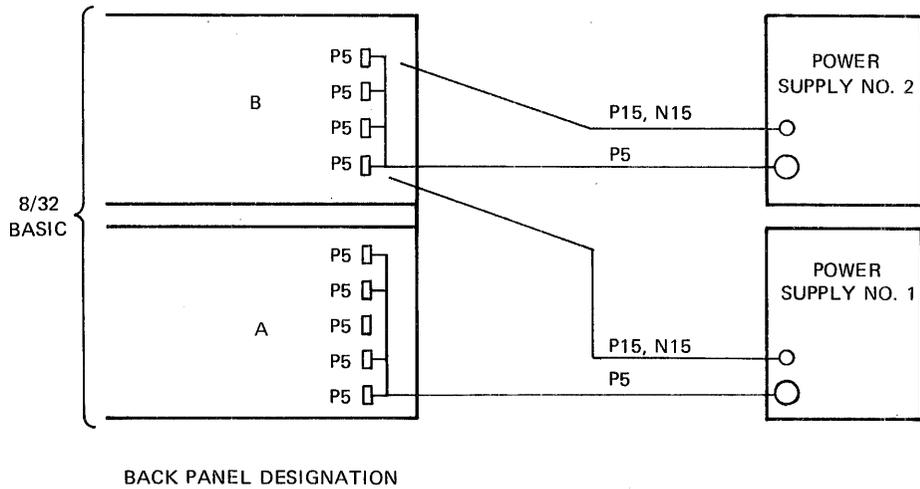

Figure 11. Basic 8/32 with 128 KB Memory Power Distribution
4.3.6 Configuration. In a Model 8/32 System, the minimum system configuration consists of one twin chassis and two standard INTERDATA Power Supplies. Figure 11 shows the power distribution of the basic system.
- Basic 8/32 Processor with 128KB Memory (Figure 11).